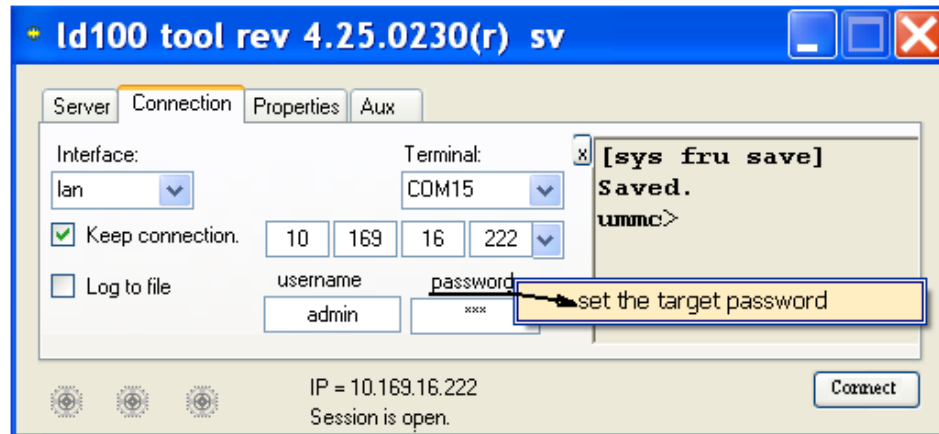

Fig.10a Password setting.
- If “Log to file” is enabled (a checkbox on Fig.10a) during flashing then FRU image will be written to a coreIPM\_fru\_data.h file used at the BMC firmware generation, for “factory” FRU data.